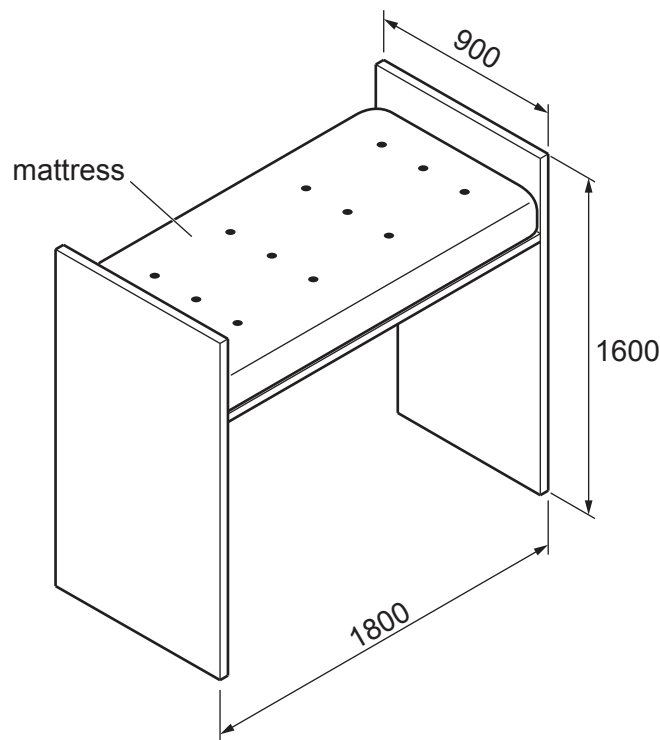

Fig. 7.1
- 7 Fig. 7.1 shows an incomplete design for a child's bed made from 20 mm thick melamine faced chipboard.